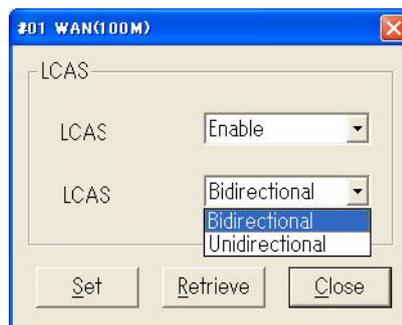

Fig. 4-4-85 LCAS Configuration
- 5 In **Bandwidth Configuration** main menu, click button of “...” to configure LCAS function according to application requirement. Refer to *Fig. 4-4-85*.